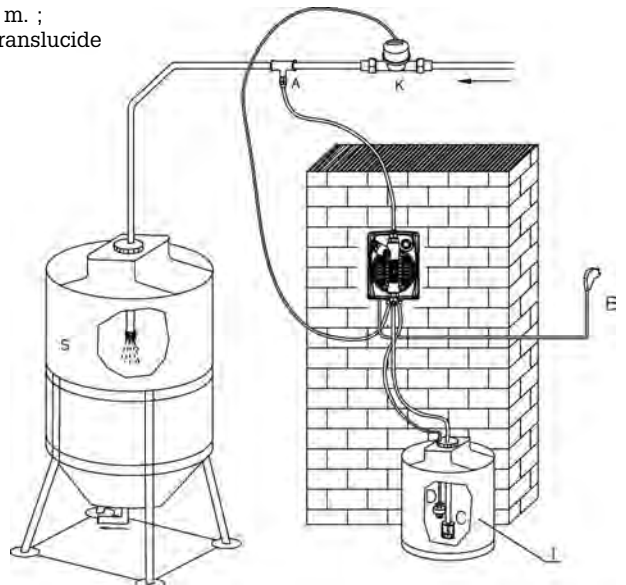

Fig. 12
6.2 - INSTALLATION TYPE (Fig. 12)